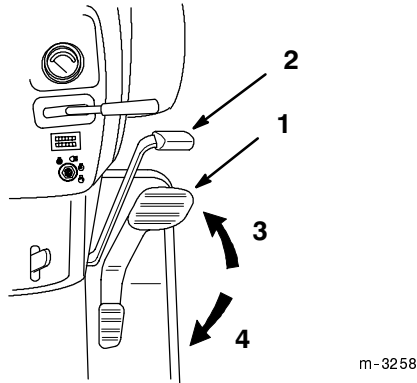

Figure 16
4. Place your foot on the traction control pedal and slowly press on the top of the pedal to move forward, or on the bottom of the pedal to move backward (Fig. 16). The farther you move the pedal in either direction, the faster the machine will move in that direction.